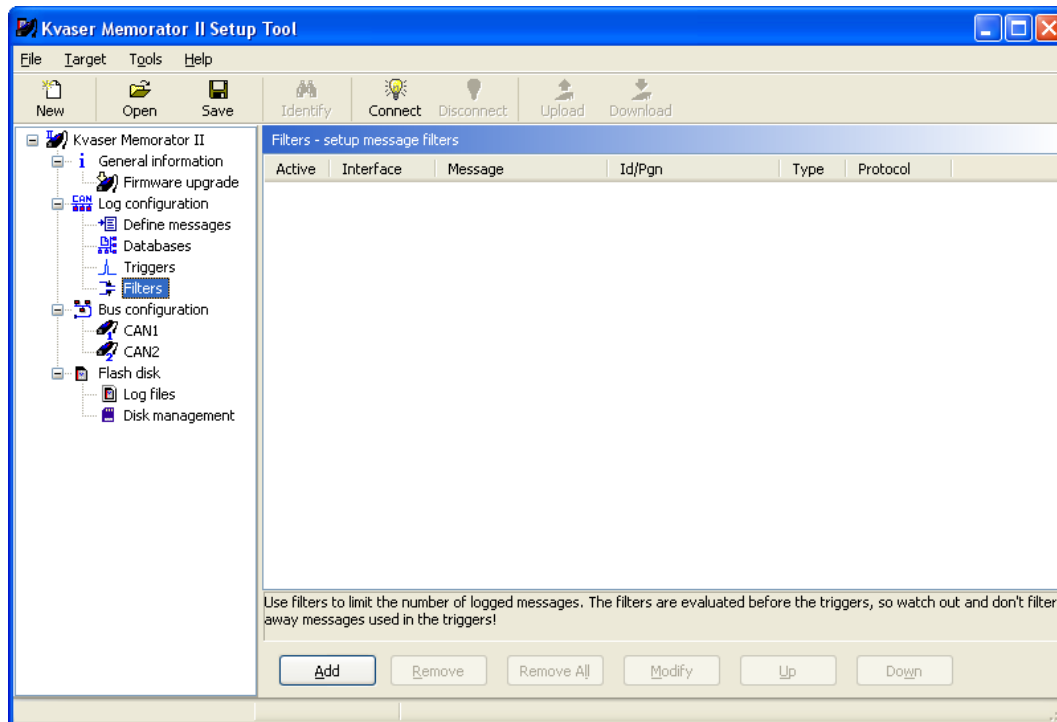

Figure 13. Filters.
- Click at *Log Configuration* in the tree view and then at *filters*. See Figure 13.